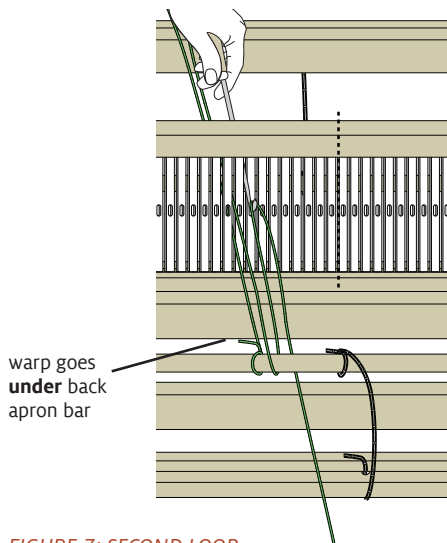

FIGURE 7: SECOND LOOP
7. Continuing along the apron bar, pull another loop of yarn **under** the apron bar (to encircle the rod) and through the next slot in the rigid heddle. Place the loop over the warping peg (Figure 7). Continue pulling the loops over and under the apron bar until all the warp ends have been measured. Each loop on the warping peg equals 2 warp ends.